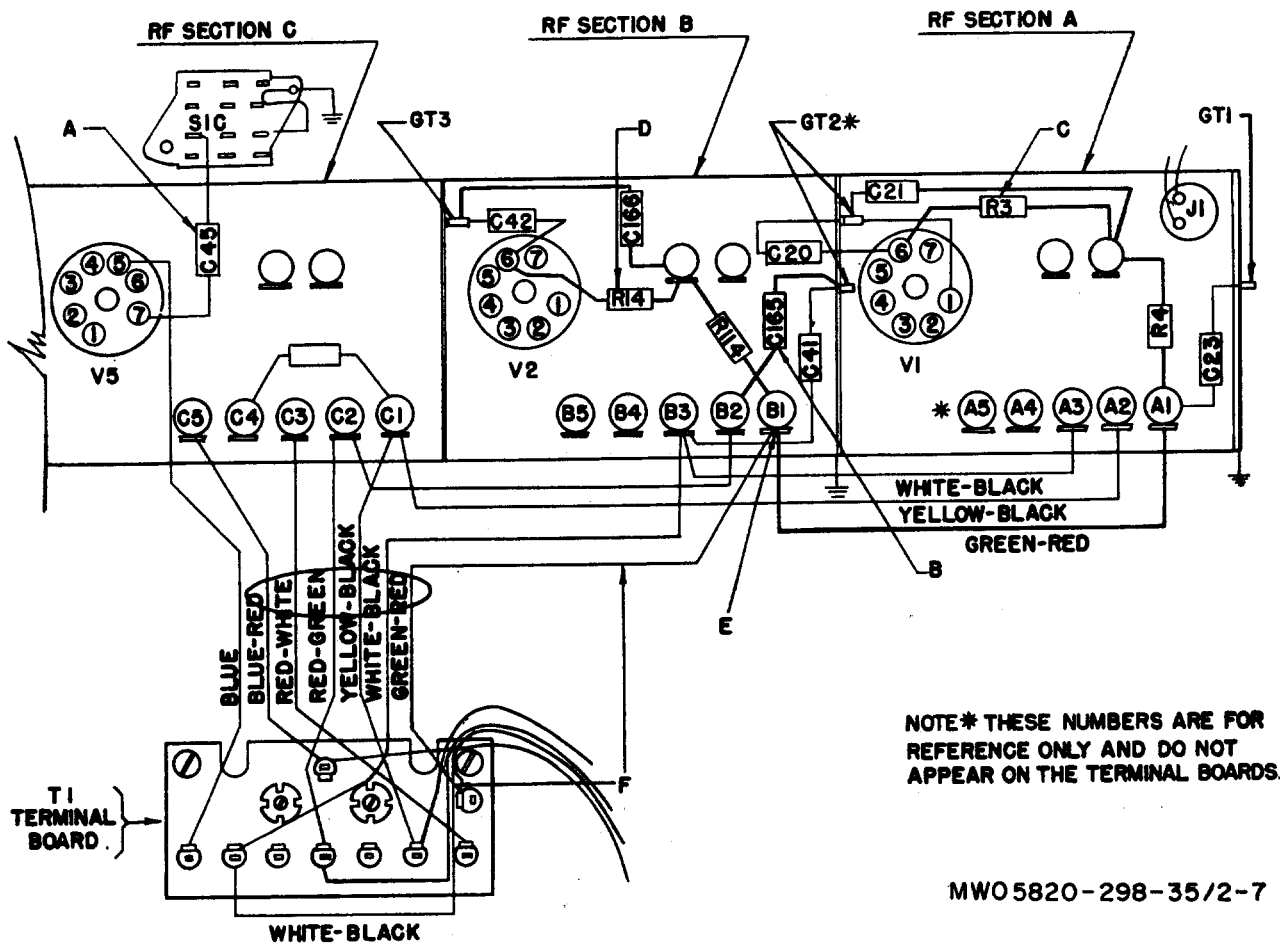
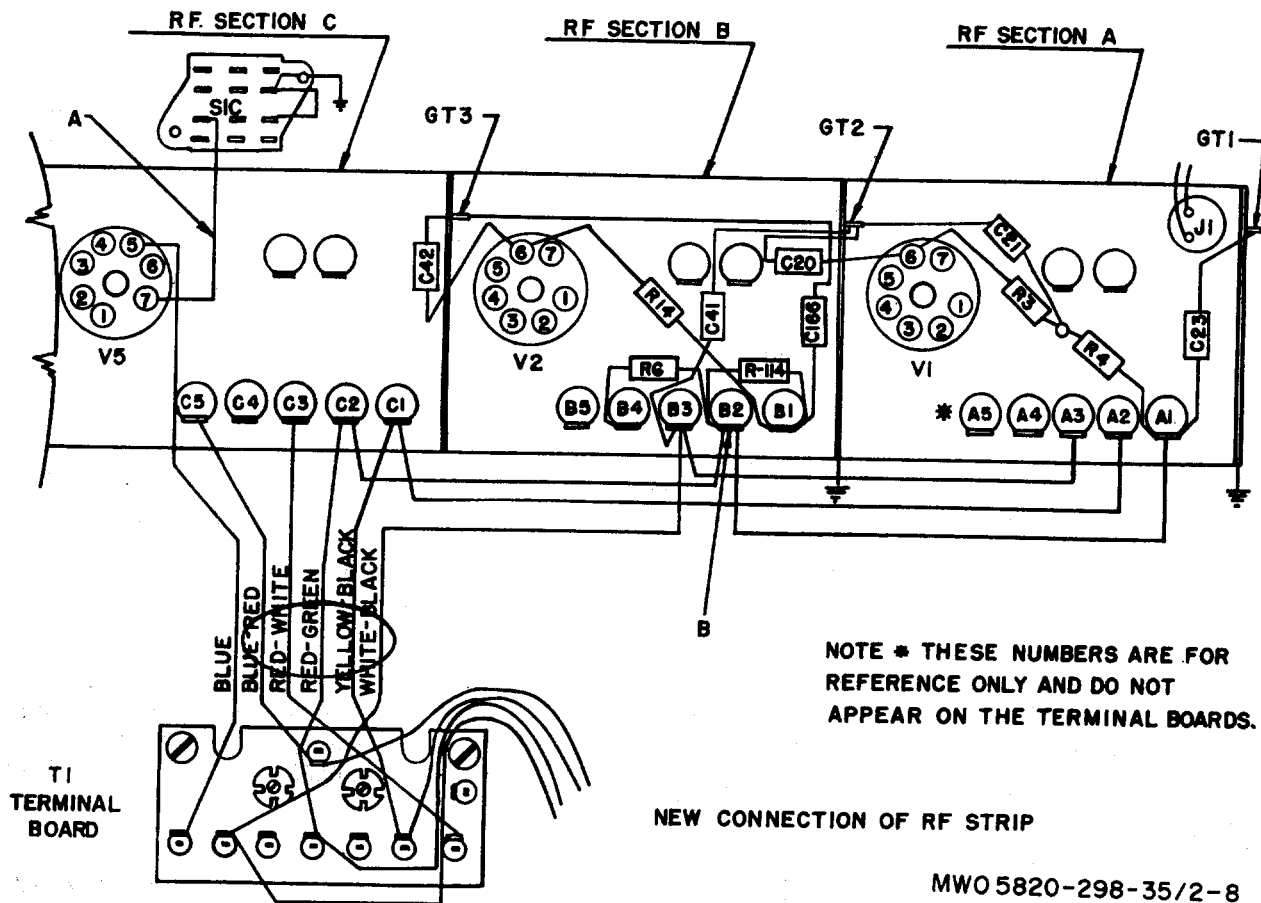

Figure 7. Original wiring of RF strip.
Figure 8. New connection of RF strip.
- (2) Unsolder and remove the 12 leads and 4 ground straps connected to the tuning capacitor terminals which terminate at the RF strip. Note their respective positions.
- (3) Remove the two cap nuts that hold the cover to transformer T1 and remove the cover.
- (4) Unsolder and remove the seven leads connected to the transformer T1 terminal board that terminate at the RF strip and tag the leads for identification. Refer to figure 7 for connections to the unmodified RF strip.
- (5) Unsolder and remove the bare wire connected to switch S3 that passes through the ceramic bushing located on the top front of the RF strip.
- (6) Remove the eight screws and lock-washers that hold the RF strip to the capacitor tuning unit housing and remove the RF strip.
- (7) Examine RF section C of the RF strip for the presence of capacitor C45 in the position shown at A, figure 7.
- (8) If capacitor C45 exists in this position, unsolder and remove the capacitor from pin No. 7 of tube socket V5 and terminal No. 6 of the ceramic switch stator S1C, as shown in figure 7.
- (9) Connect and solder a suitable length of No. 22 AWG green-white wire between pin No. 7 of tube socket V5 and terminal No. 6 of the ceramic switch stator S1C, as shown at A, figure 8.
- (10) Examine RF section B of the RF strip for presence of capacitor C165 in the position shown at B, figure 7.
- (11) If the capacitor is in this position, unsolder and remove the .01 mfd capacitor (C165) from terminal B2 of the RF strip and ground terminal GT2, shown at B, figure 7.
- (12) Check resistor R3 for proper resistance value. It is located in RF section A, and connected between pin No. 6 of tube socket V1 and the junction of resistor R4 and capacitor C21, as shown at C, figure 7. If this resistor is other than 33,000 ohms, replace it with a 33,000-ohm, 1/2-watt resistor.
- (13) Check resistor R14 for proper resistance value. It is located in RF section B, and connected between pin No. 6 of tube socket V2 and the junction of resistor R114 and capacitor C166, shown at D, figure 7. If this resistor is other than 33,000 ohms, replace it with a 33,000-ohm, 1/2-watt resistor.
V2 and the junction of resistors R5 and R6. In these sets, resistor R14 should be reconnected in accordance with figure 8.
- (14) Connect and solder a .01 mfd, 600 vdcw tubular capacitor (C166) between terminal B1 and chassis ground terminal GT3, as shown in figure 8, if a capacitor is not already connected in this position.
- (15) Unsolder and remove the green-red lead connected to terminal B1, shown at E, figure 7 (the other end of the lead terminates at terminal A1), and connect and solder it to terminal B2, as shown at B, figure 8.
- (16) Unsolder and remove the green-red lead shown at F, figure 7 from terminal B1, and remove from the plastic sleeve.
- (17) Connect and solder a 1,000-ohm, 1/2-
watt resistor (R114) between terminals B1 and B2, as shown in figure 8, if a 1,000-ohm resistor is not at this location.
- (18) Check the wiring for conformity with figures 8 and 9.
- (19) Replace the RF strip in its original position, using the original hardware.
- (20) Reconnect and solder the remaining six original leads to the terminal board of transformer T1.
- (21) Reconnect and solder in their original positions the 12 leads and 4 ground straps that connect the RF strip with the tuning capacitor terminals.
- (22) Replace the cover to transformer T1, using the original cap nuts.
- (23) Reconnect and solder the bare wire lead to switch S3 in its original position.